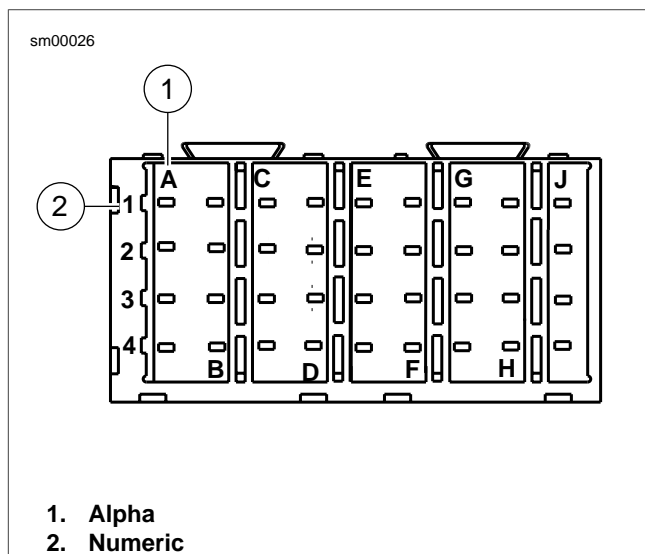

Figure A-12. Fuse Block: Coordinates (typical)
- See Figure A-12. Alpha (1) and numeric (2) coordinates identify the main fuse block terminal cavity. Refer to the main harness wiring diagram.